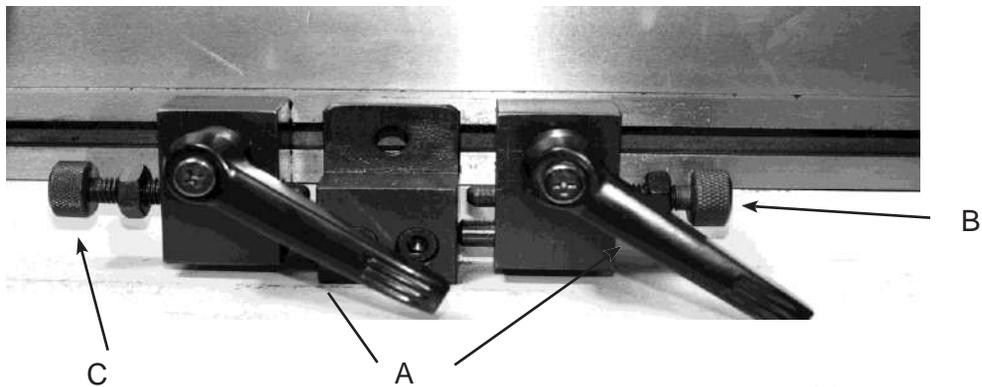

Fig. 14
- (7) Switch on the grinding wheel (clockwise), and rotate the crossfeed hand- wheel to start grinding. Rotate Knob B & C for feeding. Rotate B forward while C backwards. Fig. 14